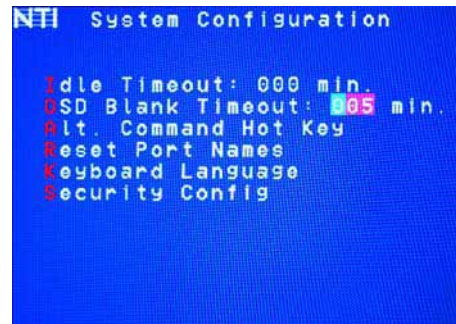

Figure 39- Change the value of OSD Blank Timeout
1. press <O> from the System Configuration menu to display the edit field around the value (see Figure 39)